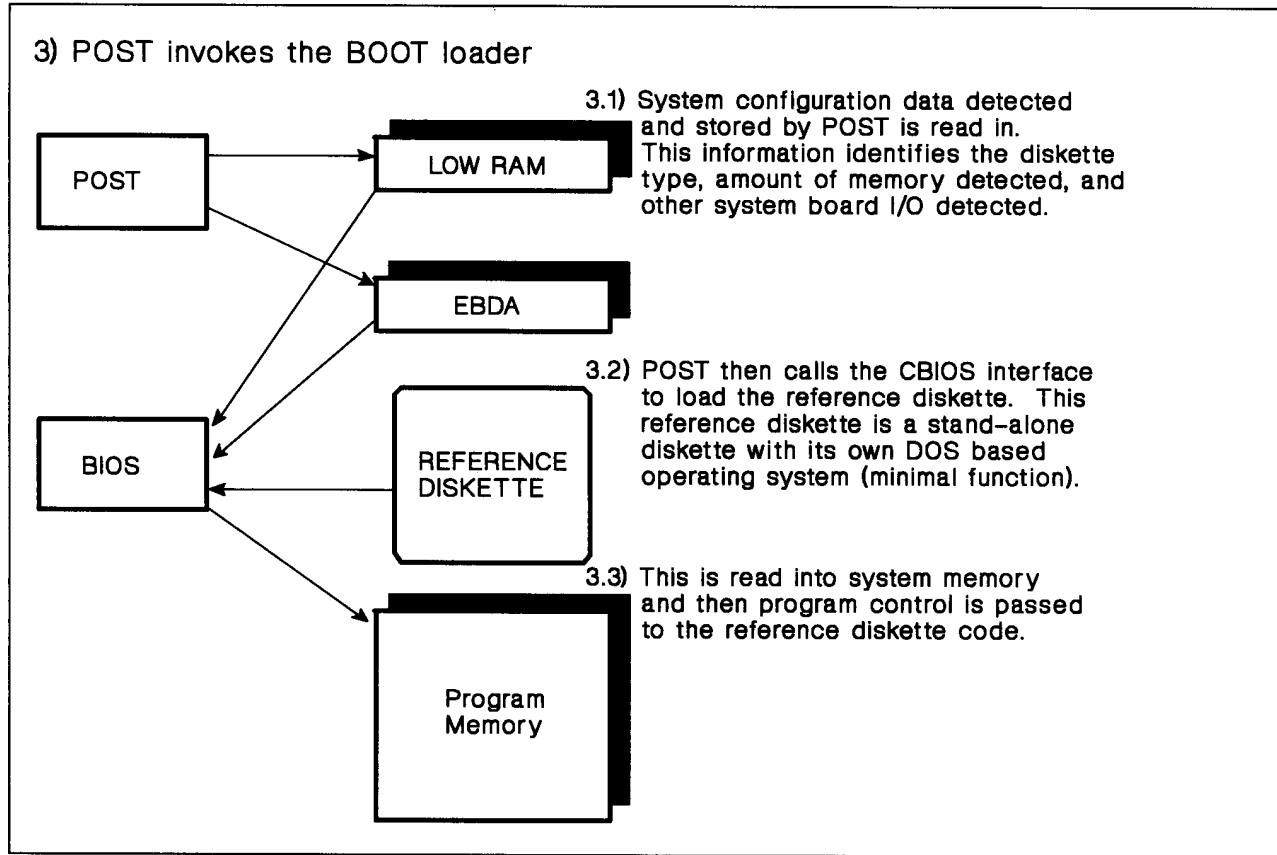

Figure 8-6. Loading the Reference Diskette to Run Setup
— see Figure 8-6 on page 8-12, items 3.1, 3.2, and 3.3
When POST has completed the initialization of the system, POST requests CBIOS to load the reference diskette. See Figure 8-6 for the steps. In non-IML systems the reference diskette must be inserted into diskette drive A.